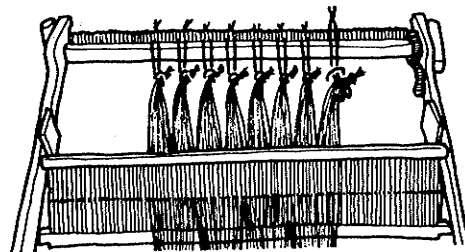

fig. 13
7. When 10 ends have been threaded, tie them together in an overhand knot (fig. 13). Continue until all warp ends have been threaded and tied.
9. Attach the cord loops to the warp bundles with a larks head knot (fig. 13). Hook the knotted ends of the cords over several dents on the warp beam.